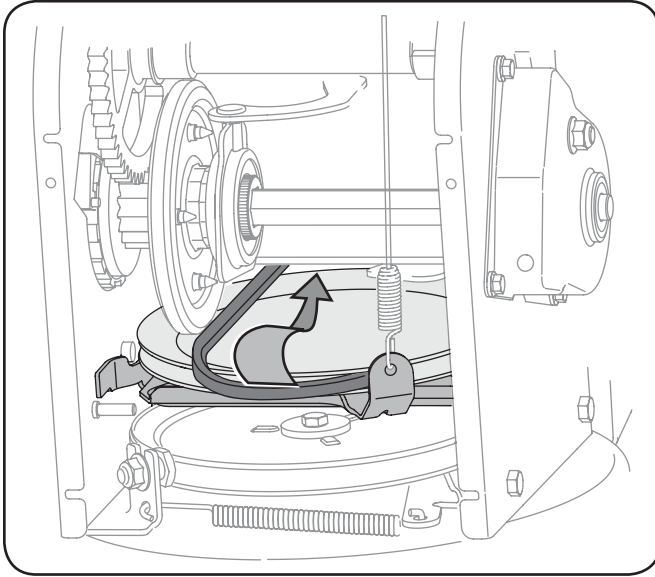

Figure 8-7
- Slip the drive belt off the pulley and between friction wheel and friction wheel disc. See Fig. 8-7.